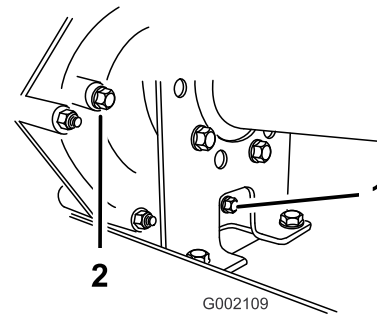
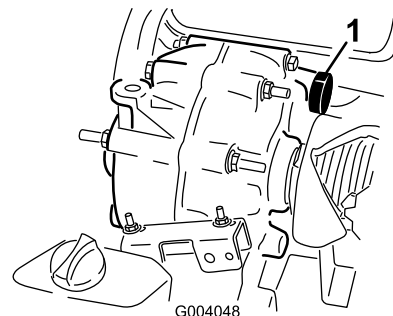

Figure 59
Figure 60
2. Wipe the area around the fill and drain plugs clean with a rag (Figure 59).
4. Remove the fill plug by rotating it counterclockwise (Figure 59).
5. Remove the drain plug by rotating it counterclockwise (Figure 59).
6. Install and tighten the drain plug and gasket into the drain-plug hole of the transmission (Figure 59).
7. Fill the reservoir (Figure 60) through the fill-plug hole with approximately 1.4 L (1.5 US qt) of the specified fluid or until the fluid level in the transmission is even with the bottom of the threads. (Figure 59).
8. Install and tighten the fill plug and gasket into the fill-plug hole of the transmission (Figure 59).
10. Check the fluid level and add more fluid if the level is below the threads of the fill-plug hole (Figure 59).